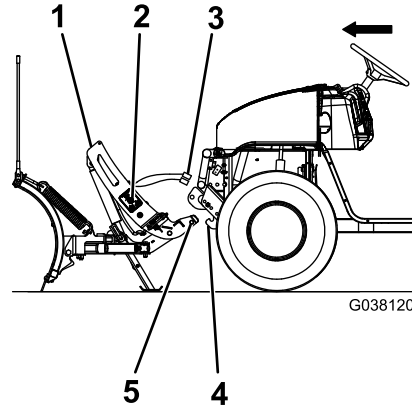

Figure 18
2. Line up the vehicle with the snowplow and drive forward until the lower pin contacts the push-beam pin receiver (Figure 18).
4. Remove the electrical-plug dust-covers and connect the plow wire harness to the vehicle wire harness (Figure 18).